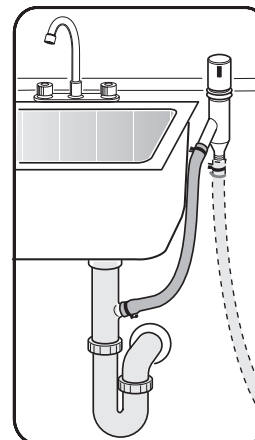

Figure 10
- 3 To the undersink dishwasher drain connection through an air gap, as shown in **Figure 10**.